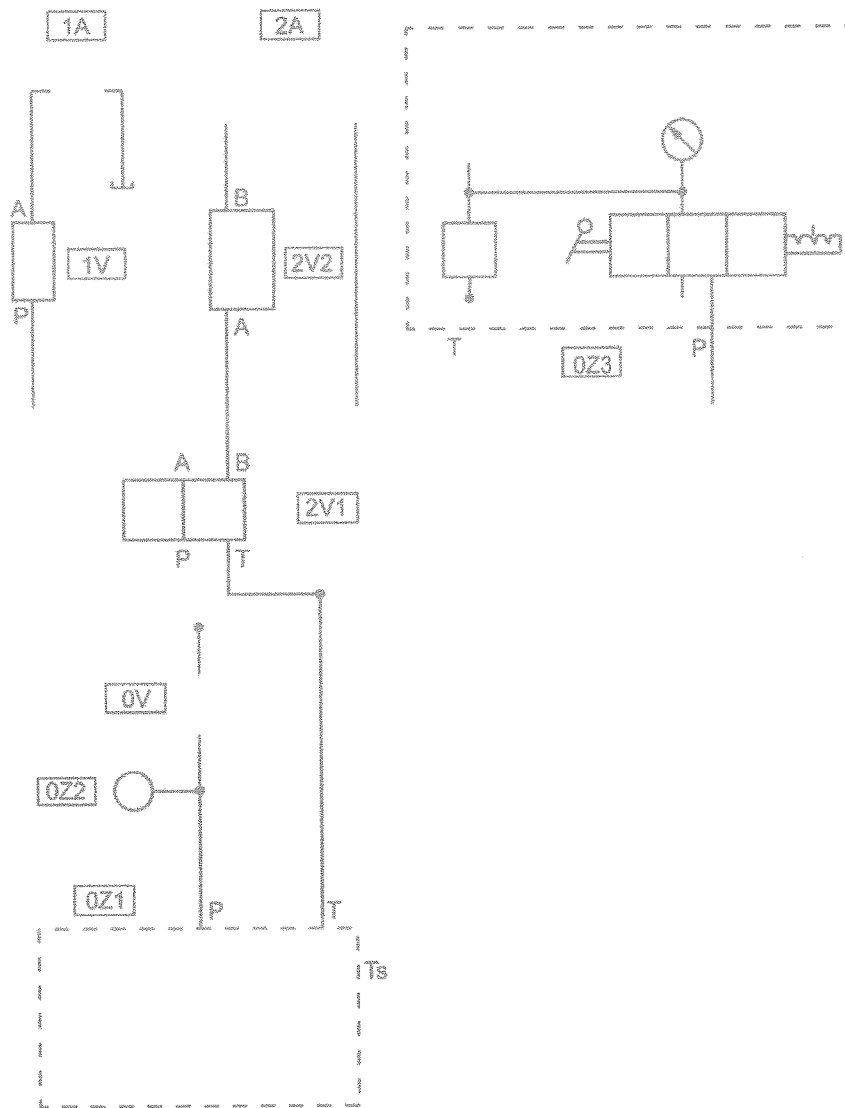

Figure Q4 (a)
b) At a construction site, an earth drilling machine in which the boring tool driven by a hydraulic motor (1A) is used for piling purposes as shown in Figure Q4. The earth drill is lowered slowly by a hydraulic cylinder (2A) at a speed appropriate to the in-situ soil layers to be drilled. The retracting stroke of the drill is to be executed as quickly as possible. This particular motion requires a higher volumetric flow of hydraulic fluid than the pump can deliver. This is produced by the additional installation of an accumulator. After the control circuit has been switched off, the hydraulic components must not be dismantled until the pressure in the accumulator has been re-leased and the accumulator has been isolated from the control circuit by means of the built-in shut-off valve. The same valve is used to relieve the accumulator to the tank. In this process, slowly opening this particular valve provides a throttle effect during the relief of the pressure. Based on the above given information, redraw the hydraulic circuit diagram given in Figure Q4(a) and complete the remaining part of.